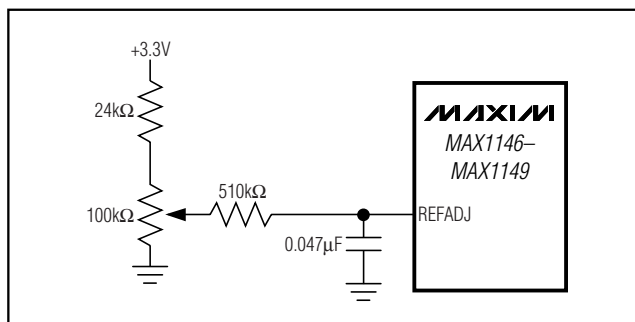

Figure 13. Reference Adjust Circuit
- 2) Utilize the internal reference buffer by applying an external reference to REFADJ (Figure 13).